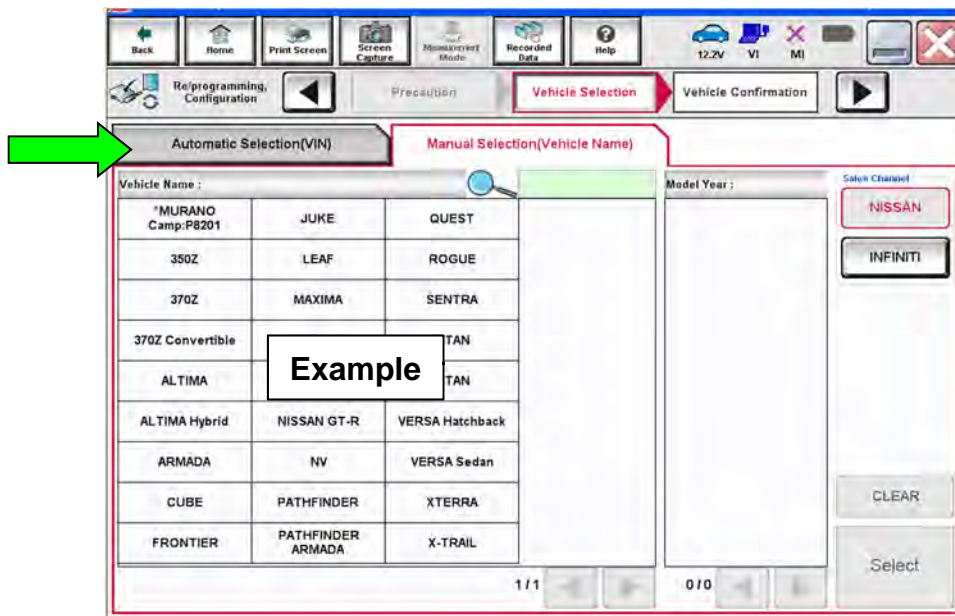

Figure 233
221. If the screen in Figure 233 displays, select **Automatic Selection(VIN)**.
- If the screen in Figure 233 does not display, continue to step 222.